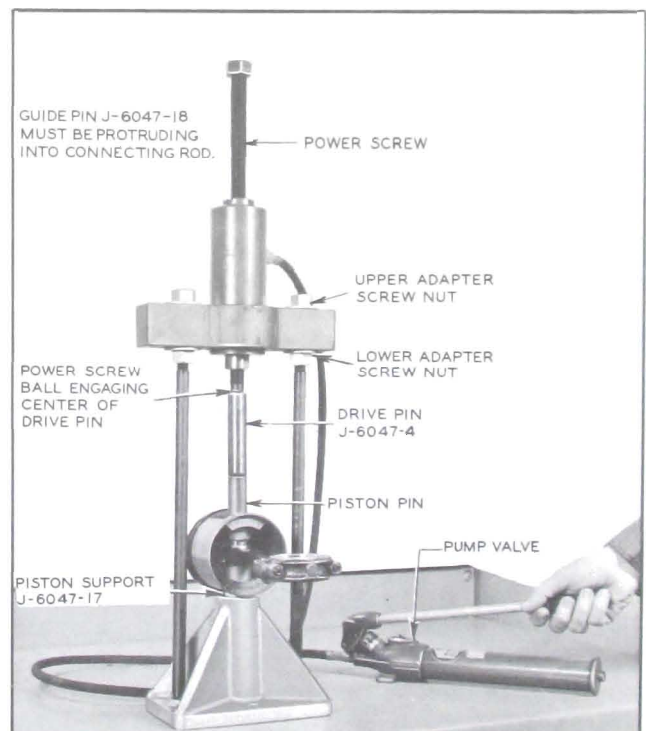

Figure 2-37—Installing Piston Pin
1. To assemble piston, pin, and rod, first place piston support J-6047-18 in base plate of press. Use the piston support with the full radial face upward. See Figure 2-37.
3. Place small end of Drive Pin J-6047-4 in hole in upper (protruding) end of piston pin and position the assembly in the press. See Figure 2-37.